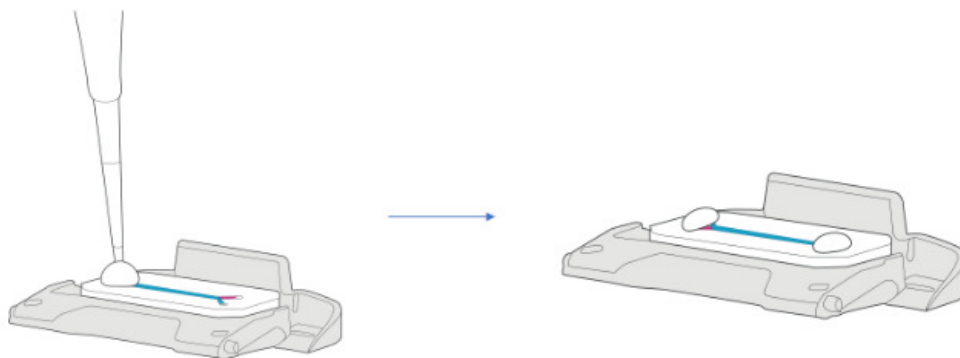

Figure 6 Chip with medium drops covering the inlet and outlet ports
3. Place additional droplets of media to fully cover all inlet and outlet ports to prevent evaporation from the ports (See Figure 6).